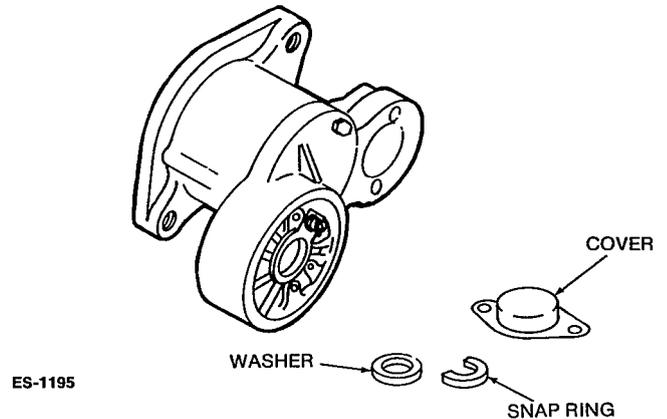

FIGURE 61b. REMOVING SNAP RING AND WASHER
5. Remove cover assembly, (snap ring and washer) from the pinion shaft (Figure 61b).